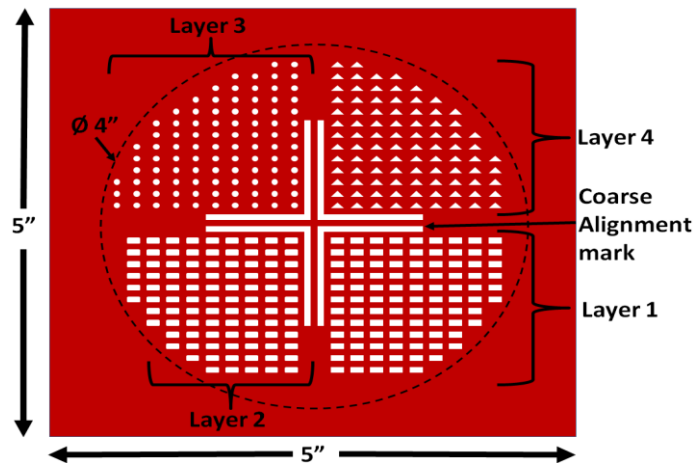

Figure 7 Mask layout with coarse alignment marks.
- c) Incorporate large alignment marks like a large "L" (**Figure 7**) on to your photomask to help with this process.